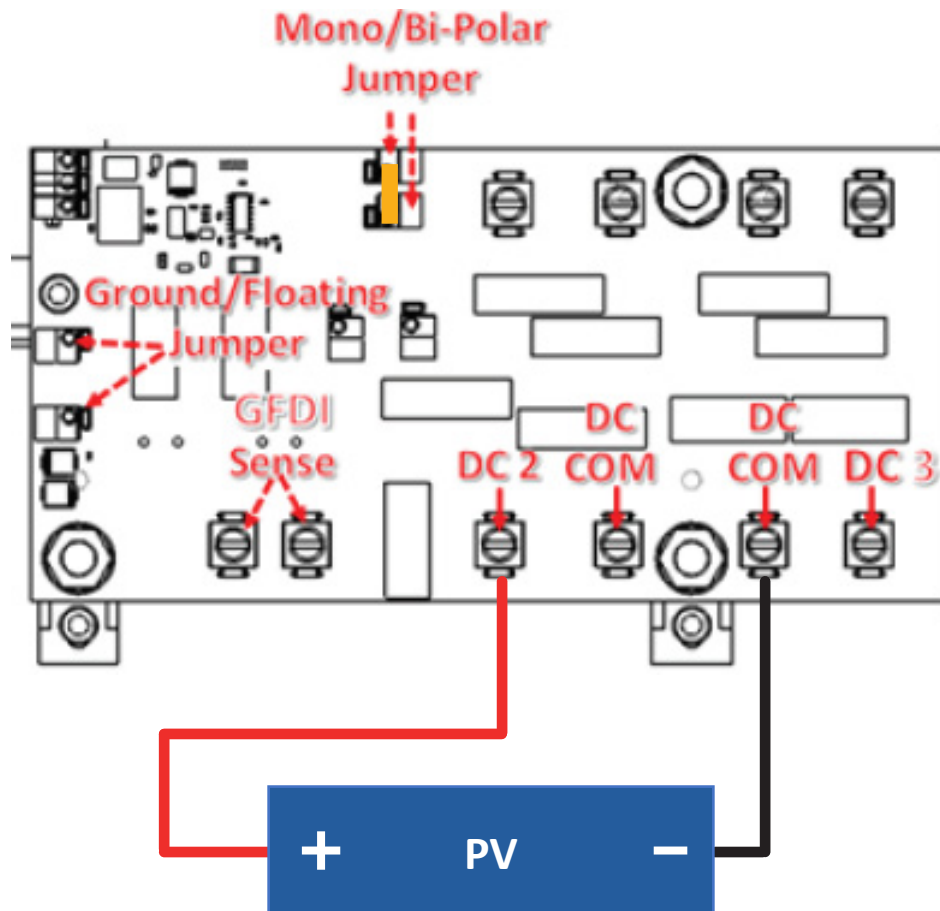

Figure 1. Floating Monopole
1. Floating Monopole - Figure 1